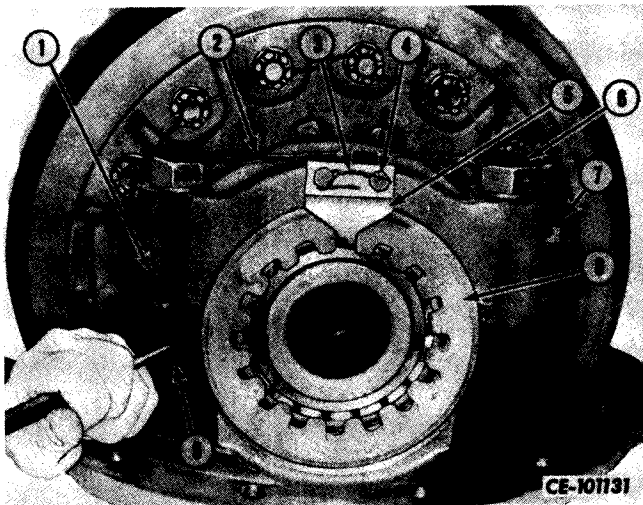

Figure 6-9
Center punch one carrier leg (9, Fig. 6-9) and bearing cap (1) for identification during assembly.